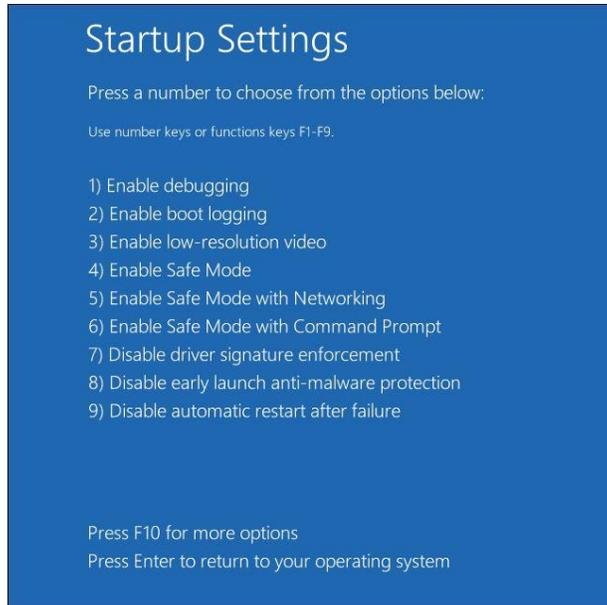

Figure 8 Startup settings options
7. Type “7” or “F7” at the Startup Settings screen to activate the “Disable driver signature enforcement” option (Figure 8).